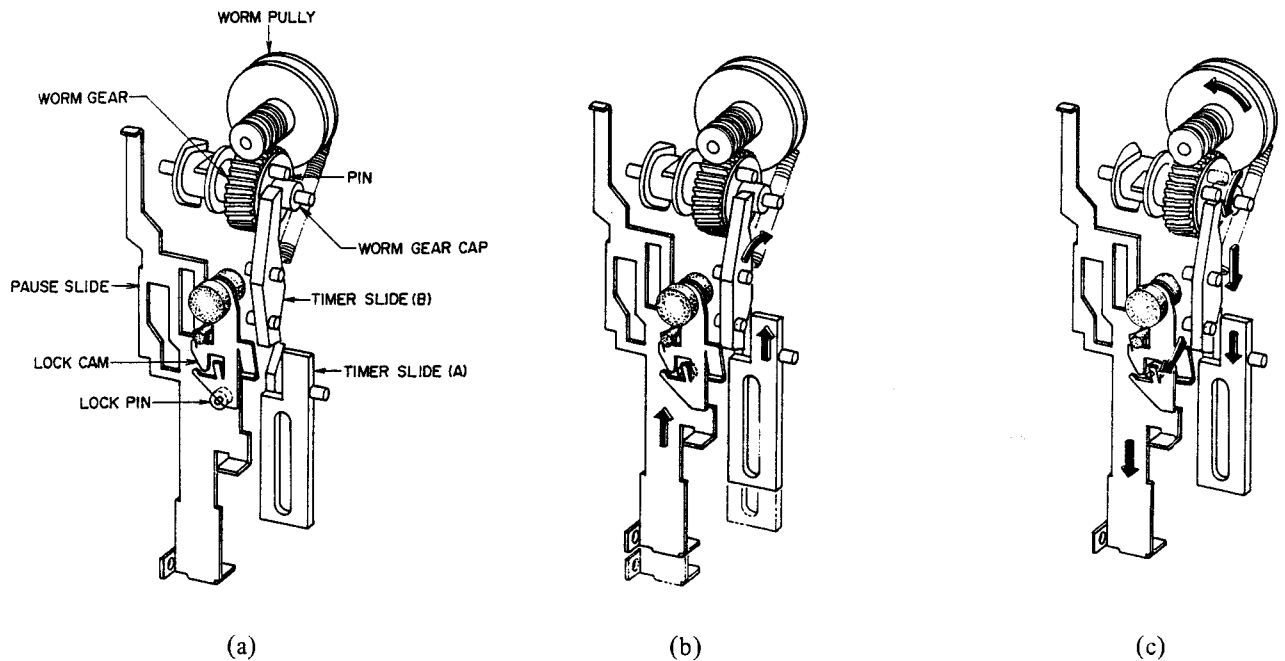

Fig. 5
When put into the **PAUSE** mode, the **LOCK PIN** is attached to the **LOCK CAM** and the **PAUSE SLIDE** is locked. When the **TIMER START SWITCH** is put on **TIMER SLIDE (A)** moves upwards and as a result, **TIMER SLIDE (B)** moves upwards to the inside in the direction of the arrow and downwards to the outside. See Fig. 5 (b).